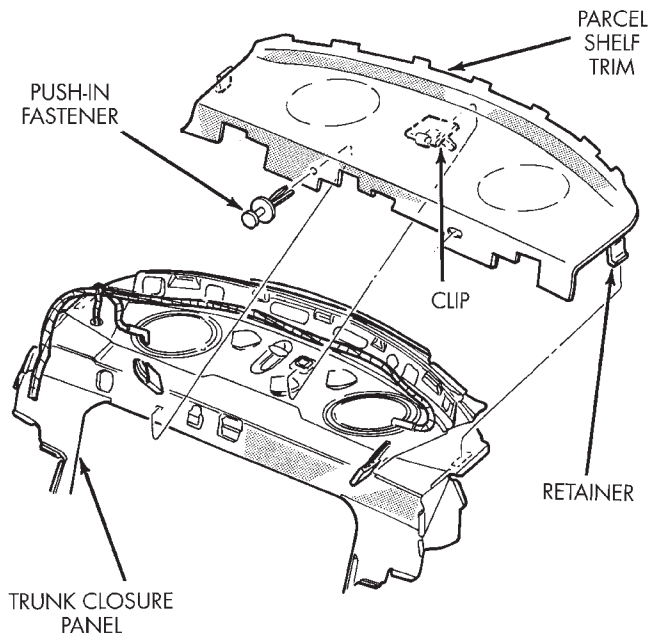

Fig. 74 Parcel Shelf Trim Panel
- (2) Remove rear seat cushion and back or quarter extension panels.
- (3) Remove push-in fastener holding parcel shelf trim to shelf panel (Fig. 74).
- (4) Pull trim forward to disengage clip holding trim to shelf panel.
- (5) Separate parcel shelf trim from vehicle.